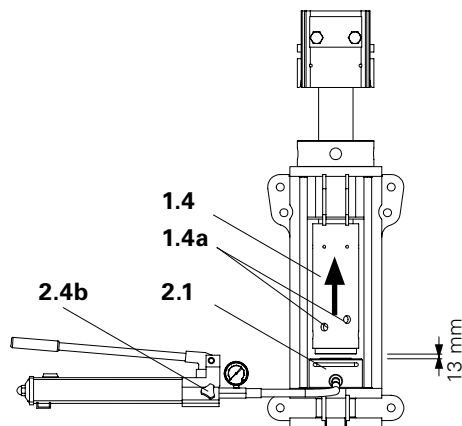

Fig. 24
3. Turn spindle sleeve (1.4) with Mounting Shaft VST (1.5) 13 mm over top edge of the hydraulic cylinder. (Fig. 24)